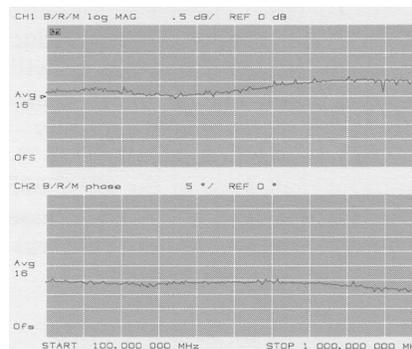

Figure 15. Plot of amplitude and phase tracking between two mixers
7. Remove mixer B from the test setup and replace it with the mixer you wish to compare it to (in this case mixer C). The resulting display is the amplitude and phase match between the third mixer and the original mixer that it replaced (mixer C/mixer B), see Figure 15.